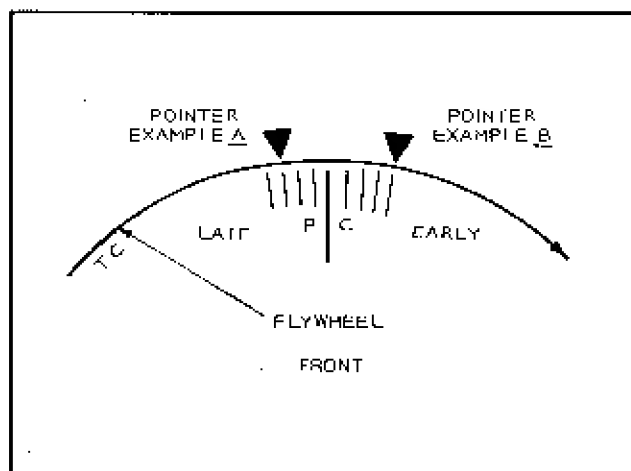

FIGURE 3-41. TIMING MARKS
**Example A.** The port closing time is *late* by 0.3-inch (7.6 mm) measurement, Figure 3-41.